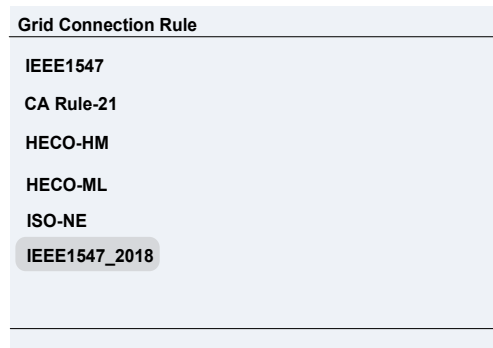

Figure 7-5 GRID CONNECTION RULE
- (1) **LANGUAGE SETTING**: Two languages, i.e. English and Chinese is available in **LANGUAGE** menu.
- (2) **GRID CONNECTION RULE**: There are multiple grid standards. Press **▲** and **▼** to select the corresponding grid standard required for the installation and press the **ENT** key to confirm the selection as shown in Figure 7-5.